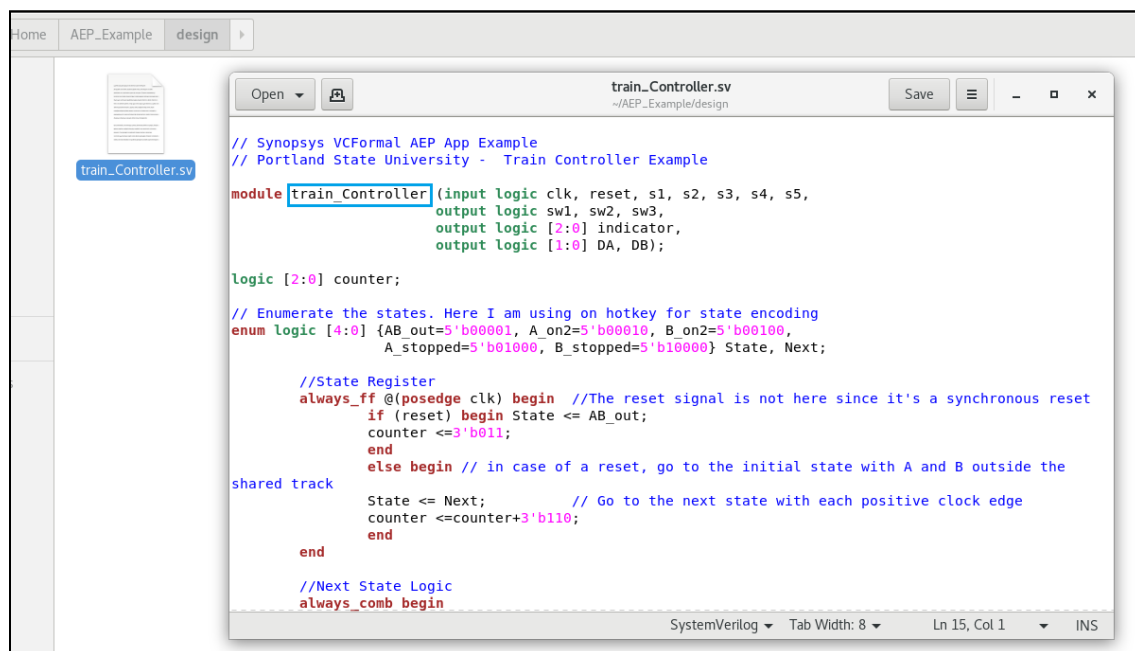

Figure 3. Example of the design we are using in this tutorial.
In order for VC Formal to map your design, you need to acknowledge and keep note of your exact module name, as highlighted in Figure 3 above. This will come in handy when you create your TCL file. To make things simple, we suggest naming your design file after its corresponding module name (more on this in the TCL File section below).
- (1) Instruction that sets the appmode to AEP in VC Formal.
- (2) Name of the main module as established in the Design file.
- (3) The property type identifier switch name for desired AEP analysis (see *Table 1* in Appendix).
- (4) Design file location so VC Formal knows where to find the file.
As mentioned before, VC Formal is case sensitive, and in order for it to map your designs, you will need to use the same module name in the TCL script (2) and the module name in the design file. For example, we can see that our module name in the TCL script is the same as the module name in the design file in *Figure 3*.